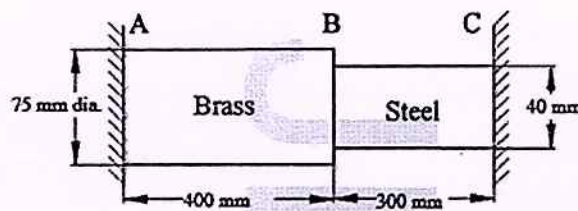

Fig 1
- 13a A circular bar of length 800 mm and diameter 40 mm is drilled with a bore for a length of 350 mm from the right side at the centre of the bar. The diameter of the hole drilled is 25 mm. Prepare a sketch. If an axial tensile load of 40 kN is applied, how much is the extension of the bar ($E = 2.1 \times 10^5 \text{ N/mm}^2$)? (10)
- 13b With the help of a neat sketch explain stress-strain diagram for brittle material. (4)
- 14 A composite bar made of brass and steel is fixed between two supports A and C as shown in Fig 1. If the temperature is increased by 80°C , find the stresses induced in the steel and brass section assuming (i) the supports do not yield (ii) the supports yield by 0.15 mm. Take $\alpha_s = 12 \times 10^{-6}/^\circ\text{C}$, $\alpha_b = 19 \times 10^{-6}/^\circ\text{C}$, $E_s = 200 \text{ GPa}$ and $E_b = 100 \text{ GPa}$. (14)